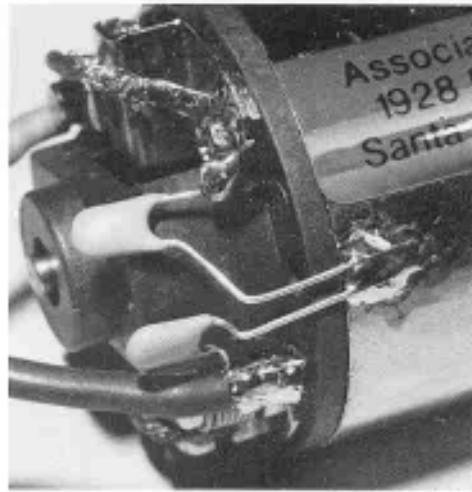

Fig. 146a
-146- Time to put the horsepower in the car. Using ROSIN core solder, solder the motor lead wires and filter capacitors to the #6500 motor, as per the instructions included in the motor bag (see also Fig. 146a). From bag #615, take the #6659 motor pinion and install the pinion, as shown. The end of the pinion should be even with the end of the shaft.